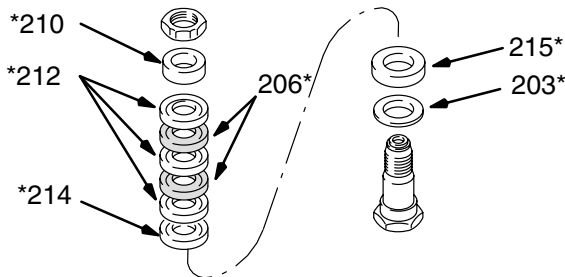

Fig. 23 02566
1. Clean the piston valve threads. One at a time, stack the backup washer (203*), seal (215*) (with lips facing down), and female gland (214*) on the piston. Alternately stack the polyethylene (212*) and leather (206*) packings (lips facing up) on the piston. Then install the male gland (210*). See Fig. 23.